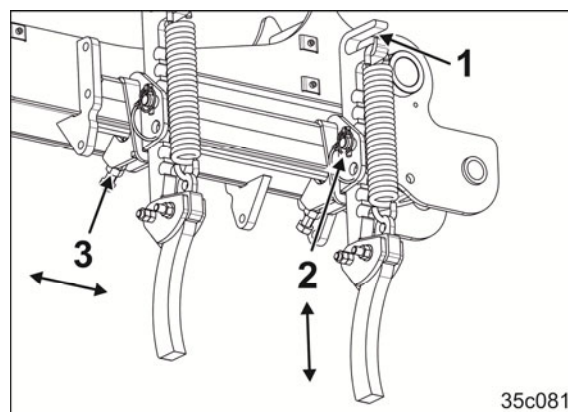

Fig. 195
1. Tighten and lock the bolt (Fig. 195/3) after adjusting the wheel mark eradicator.
1. Hold the wheel mark eradicator by the handle (Fig. 195/1).
2. Remove the bolt (Fig. 195/2).